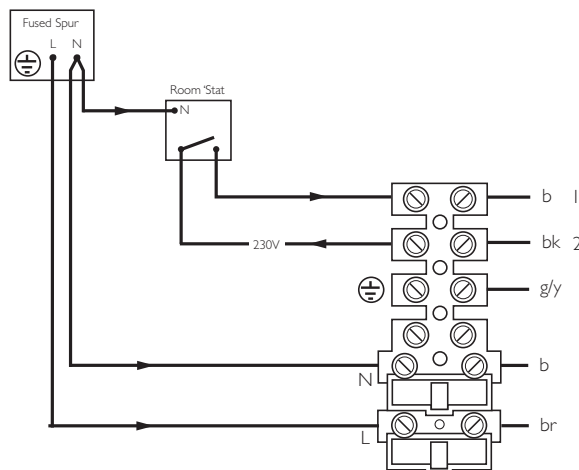

Fig. 35
7. Remove the link between terminals 1 & 2. The 230V supply at terminal 2 must be connected to the thermostat. The switched output from the thermostat must be connected to terminal 1. (Figs. 35 & 36). If the room thermostat being used incorporates an anticipator it **MUST** be wired as shown in Figs. 35 & 36.